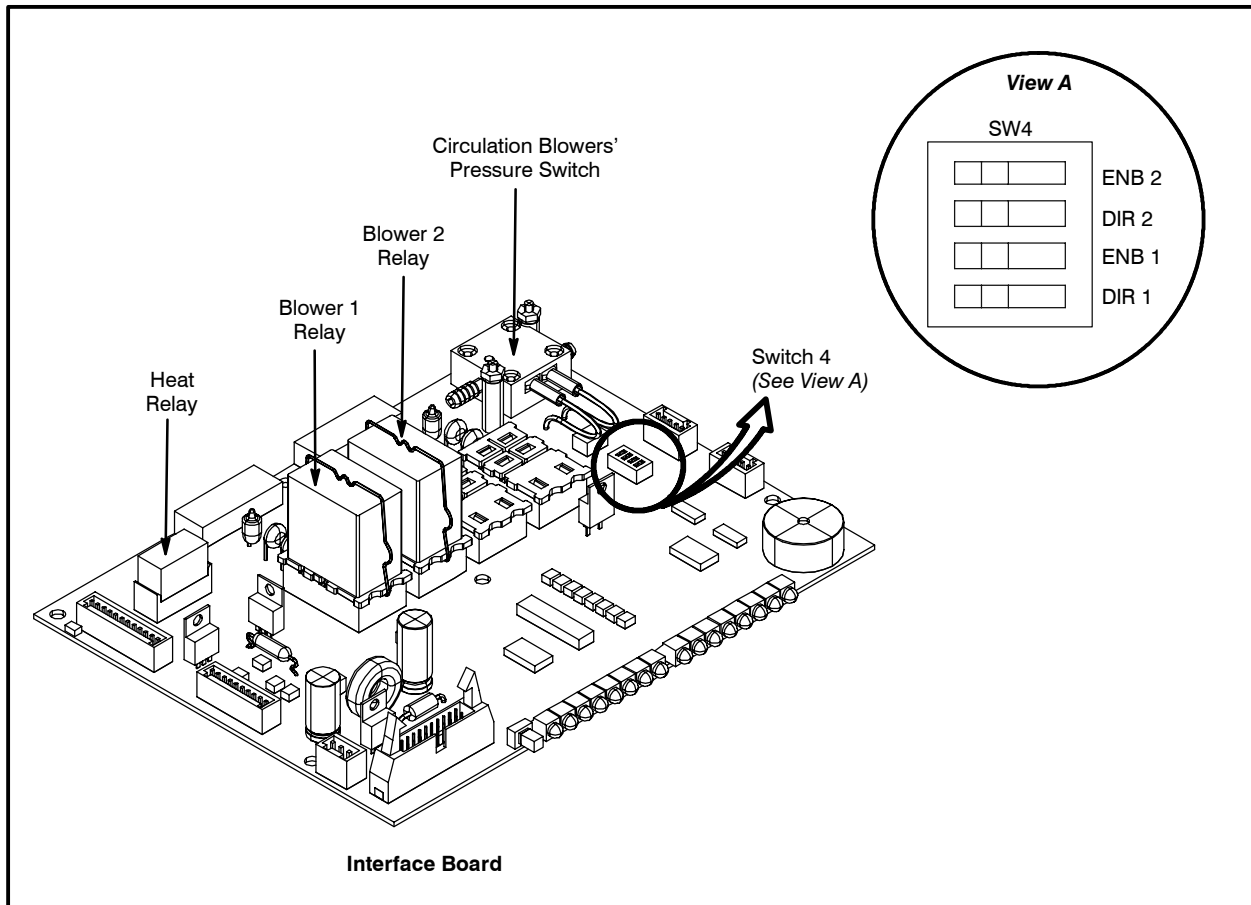

Figure 6
2. Flip the dipswitch marked DIR1 on SW4 (switch 4) on the interface board. See Figure 6.